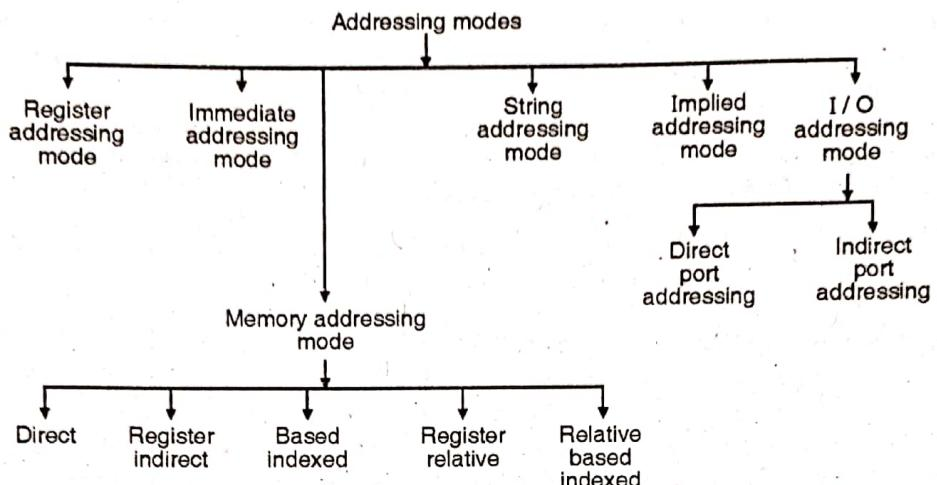

Fig. 1- Q.5(a) : Addressing modes of 8086
- Fig. 1-Q. 5(a) shows the classification of addressing modes of 8086.